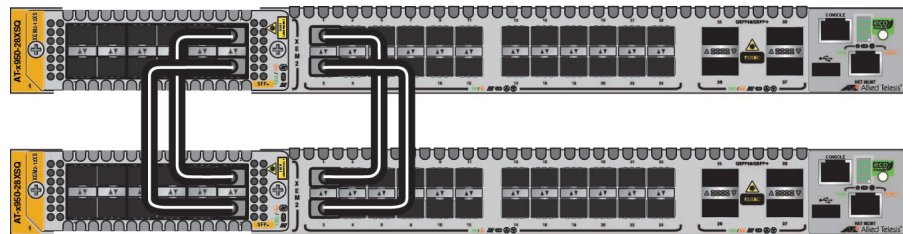

Figure 43. Unsupported Trunk with Both Base and XEM2 Line Card Ports
- ❑ Trunks cannot have both base ports and XEM2 Line Card ports. The unsupported trunk in Figure 43 consists of base 10Gbps ports and ports on XEM2-12XS Line Cards.